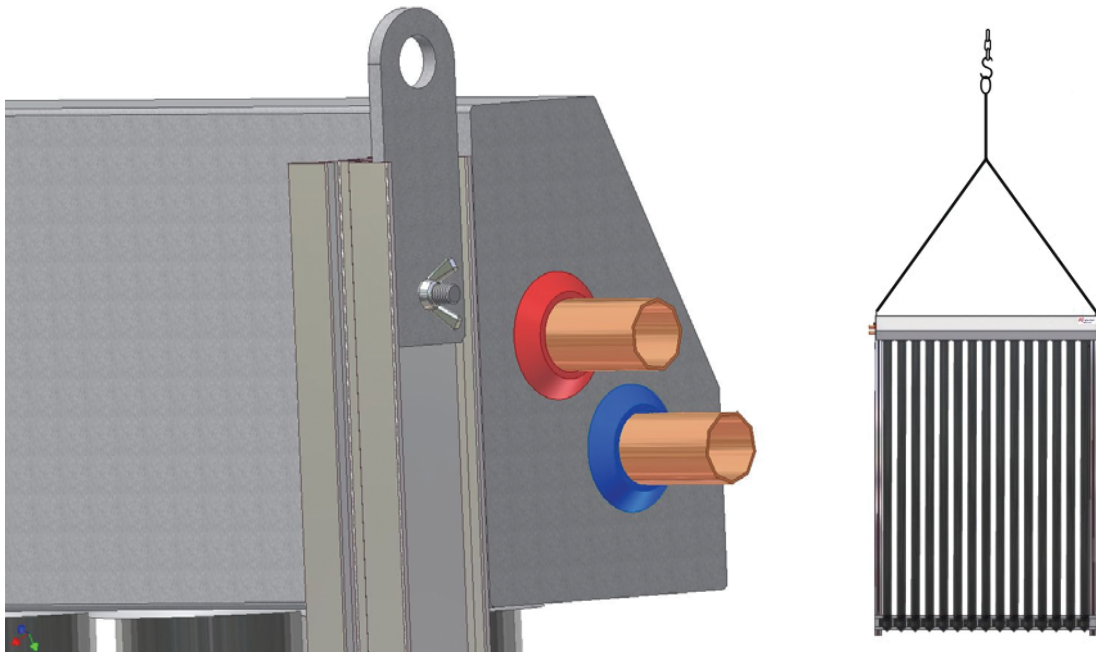

Fig. 12a: handling using an auxiliary sling
- for easier handling the collectors, an auxiliary sling with a hook can be used (see Fig. 12a)